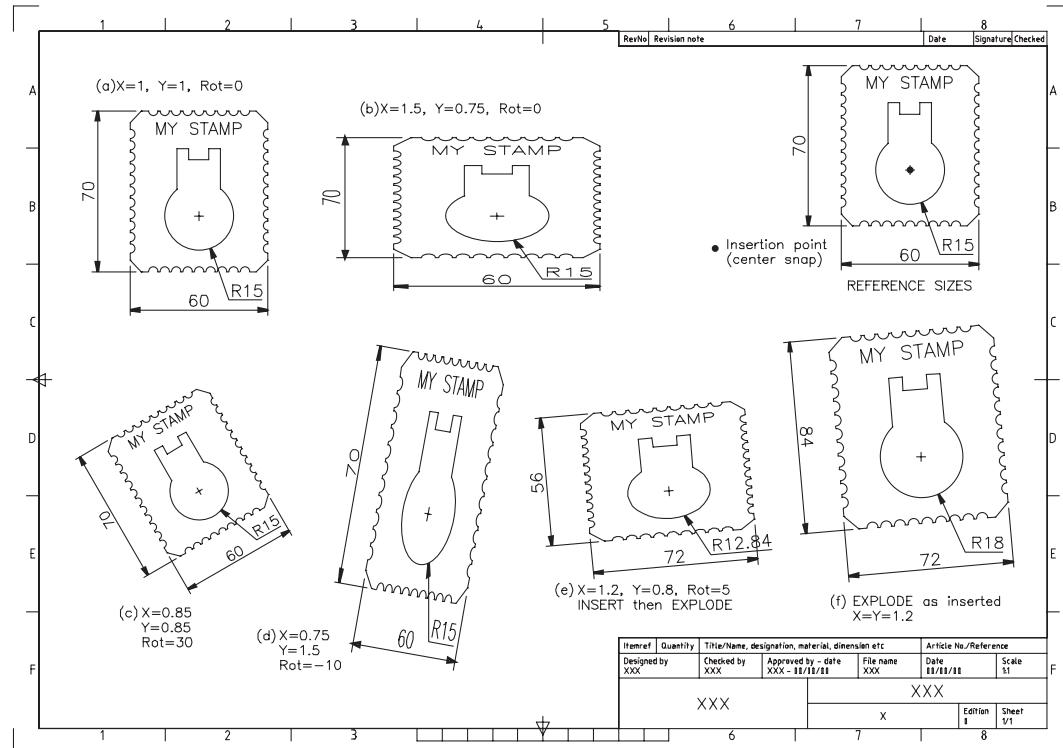

Figure 28.1 Creating and inserting a block.
- 1 Open the A3PAPER standard sheet and refer to Figure 28.1.
- 3 The stamp block is inserted full size as Figure 28.1(a).
and Stamp block inserted as Figure 28.1(b).
and a) Stamp block inserted as Figure 28.1(c)
g) pick OK – Figure 28.1(d).